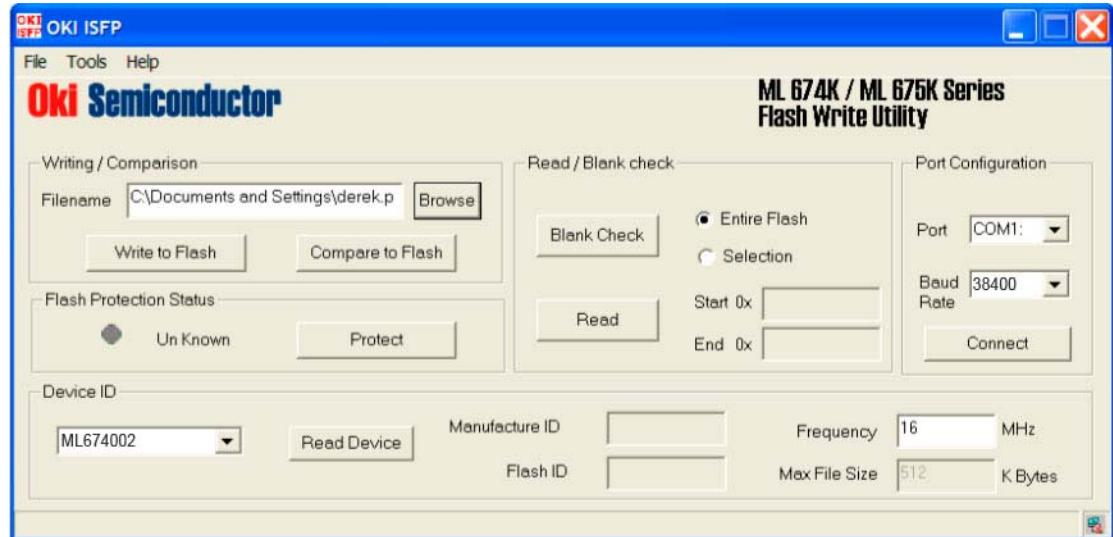

Figure 5-1.
4. Run the OKI ISFP Flash Write Utility and configure parameters as follows (Figure 5-1):